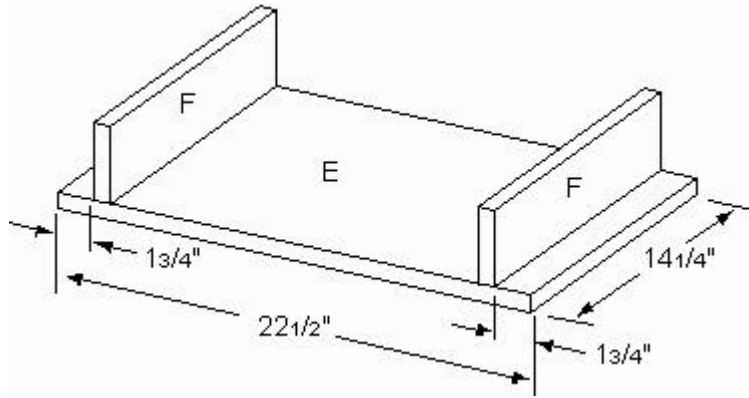

Figure 3
4. Cut two shelves (E) from 3/4-inch plywood, each measuring 22-1/2 x 14-1/4 inches.
5. Cut two drawer guides (F) from 1 x 4 pine, each measuring 14-1/2 inches long.
6. Attach both drawer guides (F) to one shelf (E), 1-3/4 inches from each 15-inch edge, as shown in *Figure 3*. Nail through the shelf (E) into the edges of the drawer guides (F), using four 1-1/2-inch (4d) nails on each joint.